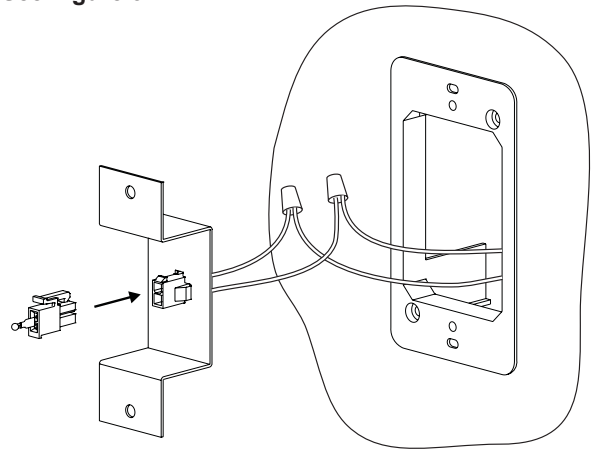

Figure 5
9. At the wall box opening connect the two thermostat wires to the two wire leads on the wall bracket assembly. Insert temperature sensor from step 8 into the wall bracket assembly. Insert the wall bracket assembly into the wall box opening. **See Figure 5.**